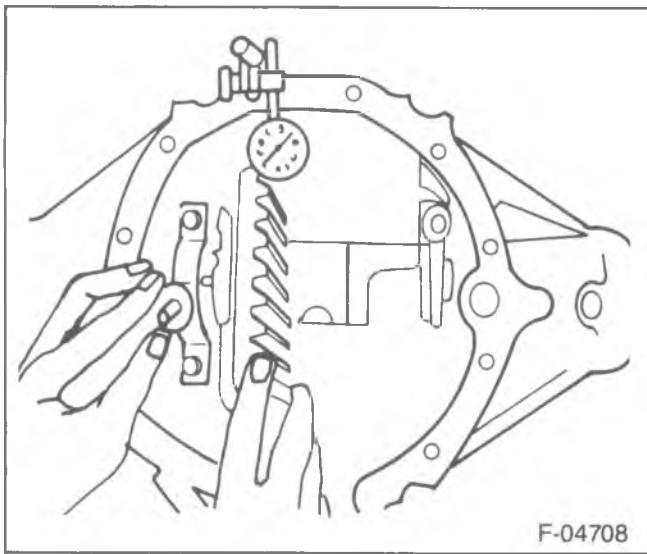

Figure 20—Installing Side Bearing Gaging Tools
- Insert J-22779 between the axle housing and the left bearing cup (figure 20).